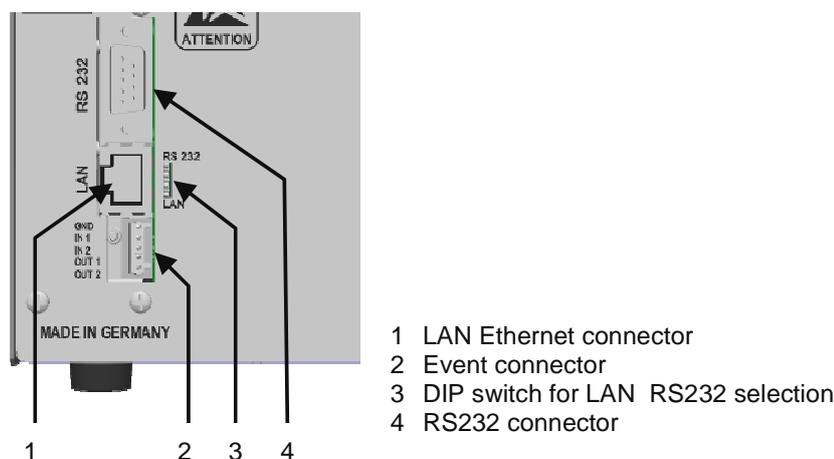
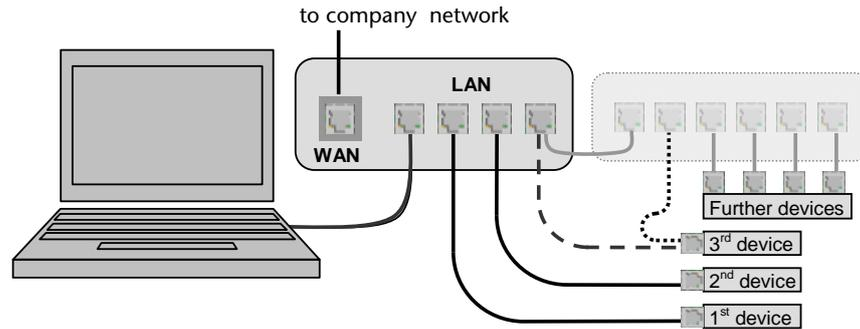

Fig. 9 Control interfaces: LAN and RS232
Fig. 10 Structure of the local area network (LAN)
Generally control of and data transfer from the Fraction Collector 3050 is performed via ethernet or via RS232 interface. The selection can be done with a DIP switch, **Fig. 9** (3).
Connect the RS232 interface on the rear, **Fig. 9** Pos. 4, directly to a **COM-Port** of your PC. Note the port number for configuring the instrument inside the software. Position the DIP switch (Pos. 3) to RS232.
Position the DIP switch (**Fig. 9** Pos. 3) to LAN. Create your local area network (LAN) as illustrated in **Fig. 10**. Connect the LAN ports of the PC and all devices using ethernet patch cables.
The event connector strip, **Fig. 9 (2)**, enables the input and output of start or error signals from or to other instruments. For normal use controlling all included instruments with ChromGate[®] or ClarityChrom[®] respectively they are not necessary.